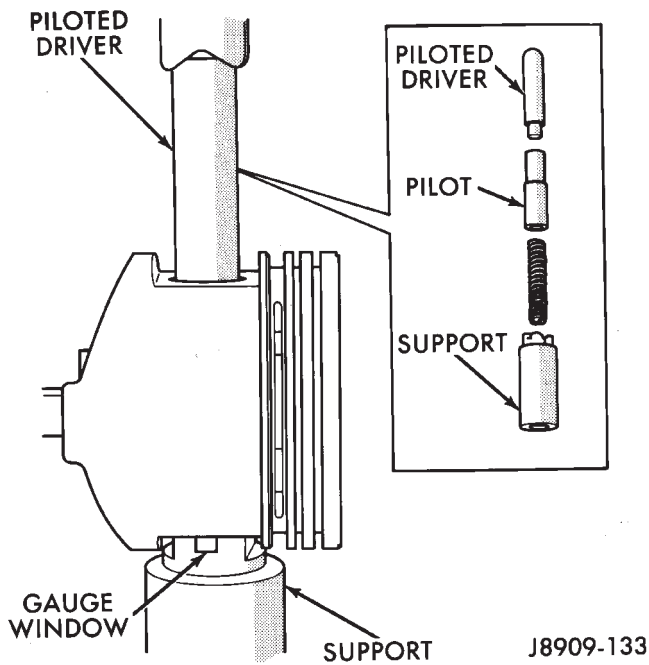

Fig. 17 Piston Pin Removal/Installation
(1) Position the piston and connecting rod assembly on an arbor press.
(2) Apply force to a piloted driver and press the pin completely out of the connecting rod and piston assembly (Fig. 17). Note position of the pin through the gauge window of removal support tool.
(3) Insert piston pin through the upper piston pin bore and into the connecting rod pin bore.
(4) Position the piloted driver inside the piston pin (Fig. 17).
(5) Using an arbor press, press the piston pin through the connecting rod and piston bores until pin pilot indexes with mark on the support. The piston pin requires a 8 900 N (2,000 pounds) press-fit. If little effort is required to install piston pin in a connecting rod, or if the rod moves laterally on the pin, the connecting rod must be replaced.
(6) Remove the piston and connecting rod assembly from the press. The pin should be centered in the connecting rod (± 0.792 mm or ± 0.0312 inch) and float in the piston pin bore.